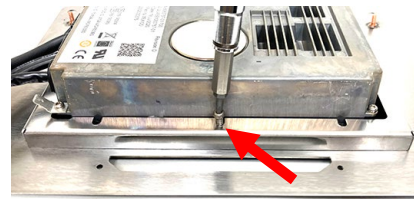

Figure 27
28. Attach the controller mounting frame to the controller using the screws removed in step 22 (see Figure 27).